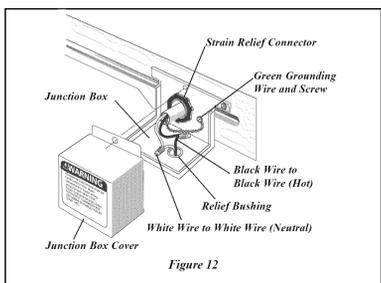

Figure 12
3. Inside junction box, attach ground wire under head of grounding screw and tighten. See Figure 12.
5. Replace junction box cover. See Figure 12.